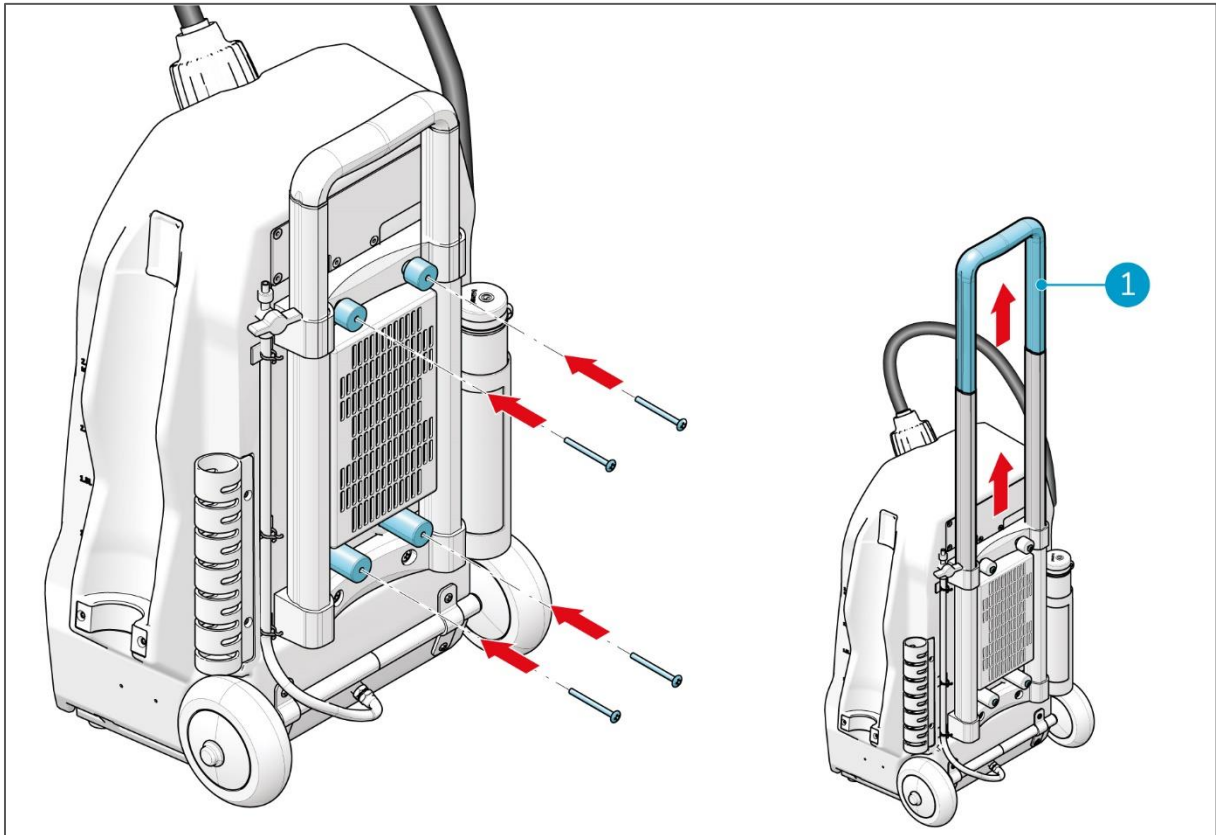

Figure 10
4. Put the four screws back in place, as these also hold the trolley handle (Figure 10, pos 1).